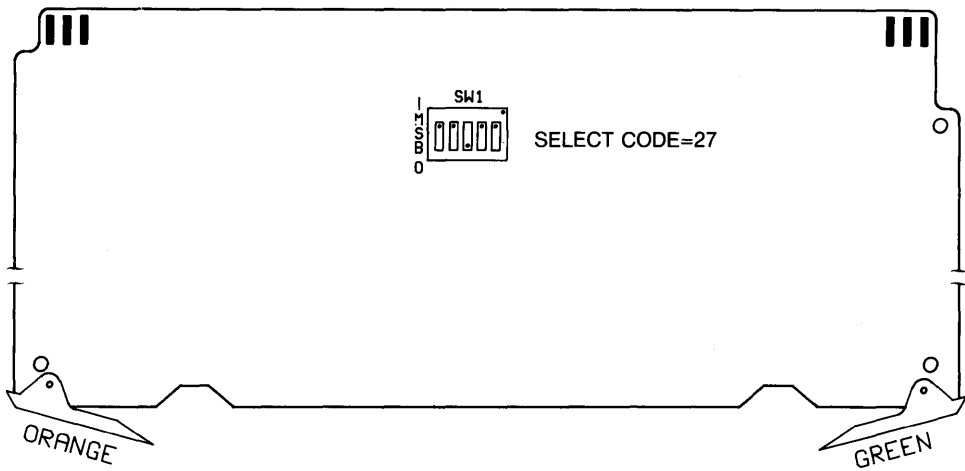

Figure 5-1. EPROM Programmer Interface select code switches.
- a. Find the set of five switches labeled SW1 on the EPROM Programmer Interface (see Figure 5-1).